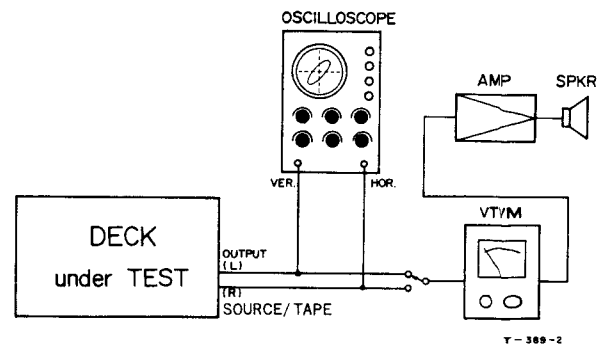

Fig. 10-5 Head Alignment Fine Adjustment Set-up and test connections (PLAYBACK)
6. Connect an oscilloscope to the OUTPUT SOURCE/TAPE jacks as shown in Fig. 10-5.